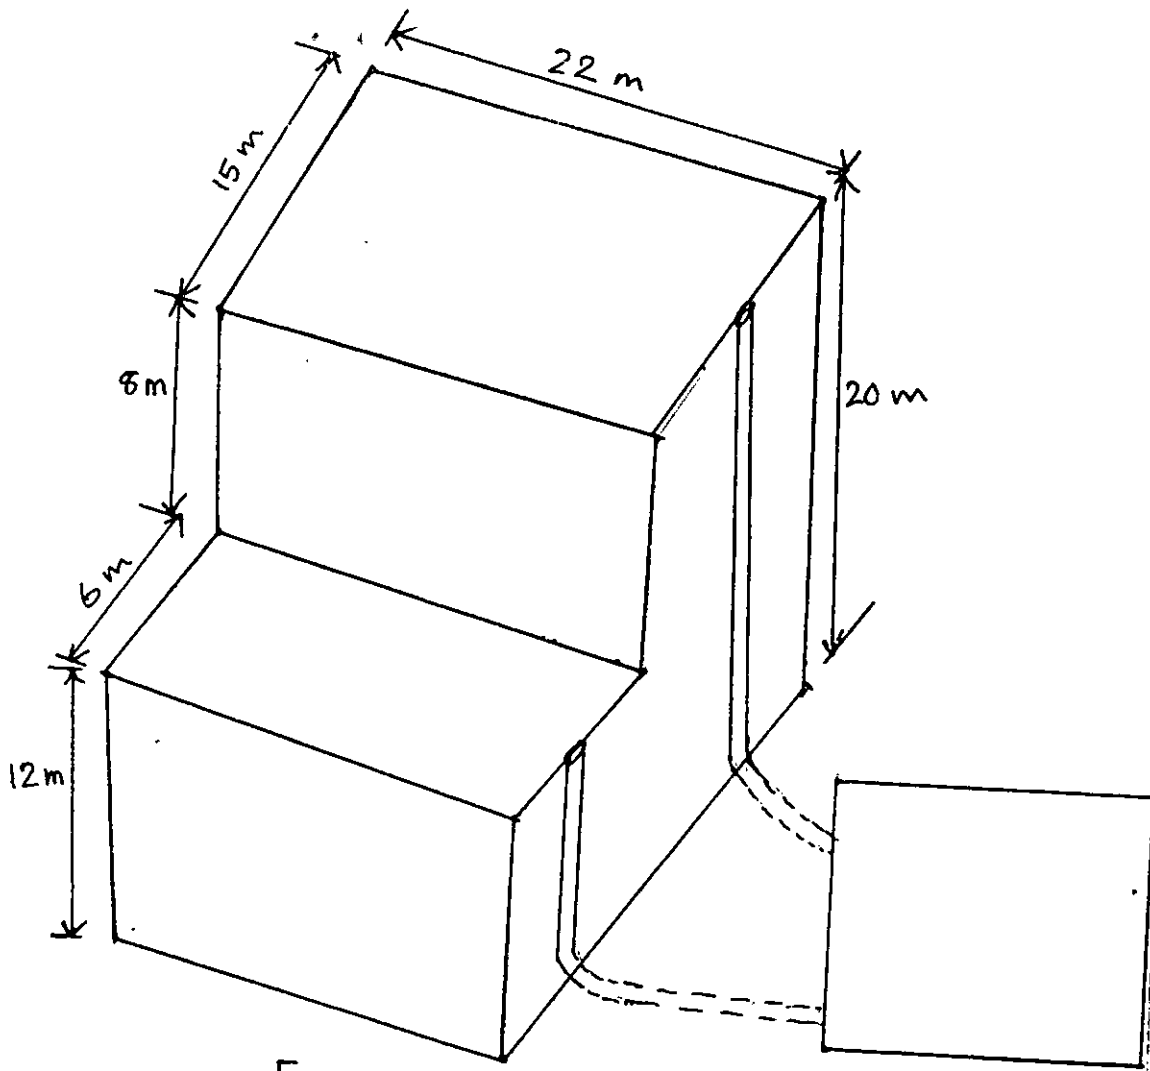

Figure 1
1. (a) Using phase diagram, show that for a saturated soil, $\gamma_b = \gamma_w (G_s + e)/(1 + e)$. The symbols carry their usual meanings. (12)
- (b) From field density test on a compacted clay layer, the bulk unit weight was found as 121 lb/ft^3 and the moisture content was 12.5%. The specified relative compaction is 90% or more. Standard Proctor Compaction was performed on the same soil and it produced a maximum dry unit weight of 118 lb/ft^3 and optimum moisture content of 14%. Is the field compaction acceptable as per the specifications? (10)
- (c) A sheet pile wall penetrates 4 m into a permeable soil stratum with coefficient of permeability of $5 \times 10^{-6} \text{ m/s}$ (Fig. 1). The permeable stratum extends upto 8 m from the ground level and is underlain by an impermeable stratum. The water level on the upstream and downstream side are 6 m and 1 m above the ground level. Draw a flow net and find the seepage flow per meter length of sheet pile wall per day. Also, determine the exit gradient and check stability against failure by piping. (18)
2. (a) A cylindrical pipe, 30 cm long and 6 cm in internal diameter, is fitted with a screen at the bottom and is open at the top. The pipe is filled with three distinct layers of sand each of thickness 5 cm. The coefficient of permeability of the top, intermediate and bottom layers are $3 \times 10^{-4} \text{ cm/s}$, $4 \times 10^{-4} \text{ cm/s}$ and $6 \times 10^{-4} \text{ cm/s}$, respectively. The cylinder is filled with water up to its top and the water level is maintained at that position by external supply of water. Determine the equivalent coefficient of permeability of the sand assembly and the volume of water that will flow through the sand layers in 5 minutes. (15)
- (b) A soil in a location consists of clay upto a depth of 3 m from the ground level underlain by a sand layer. The water table is at 2 m below the ground level. The unit weight of the clay layer above and below water table are respectively, 15 kN/m^3 and 18 kN/m^3 . The unit weight of the sand layer is 20 kN/m^3 . Draw a schematic diagram of the soil profile. Also, draw the total and effective vertical stress diagram, showing the controlling ordinates, upto a depth of 10 m below the ground surface. (15)
3. (a) A soil profile is shown in Fig. 1(a). If 4 m fill of density 18 kN/m^3 is placed on the ground surface, determine the total consolidation settlement of the clay layer. (18)